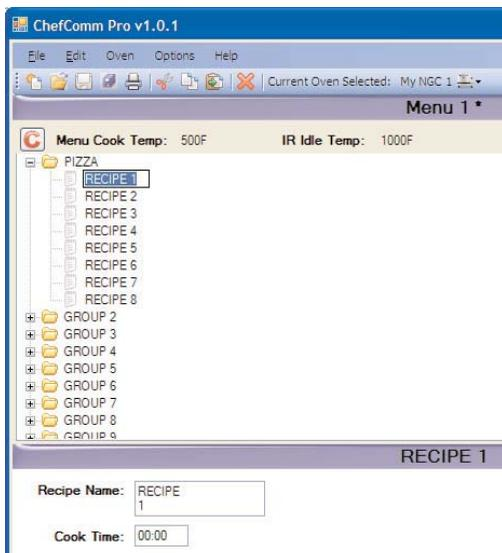

Figure 19: Rename a Recipe
4. Type the new name and press **Enter** (Figure 19).